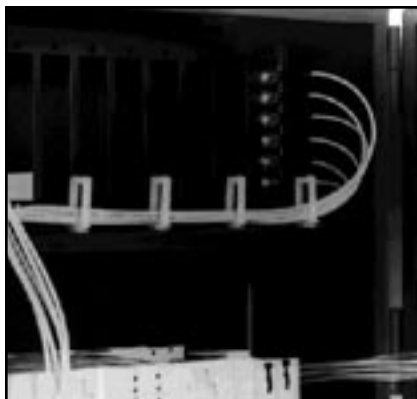

FIGURE 7 - ROUTING OF PIGTAILS
5.04 Route the pigtails through the Pigtail Management Hoops toward the right side of the cabinet, while maintaining a smooth bending radius behind the Coupler Plates. (Figure 7)